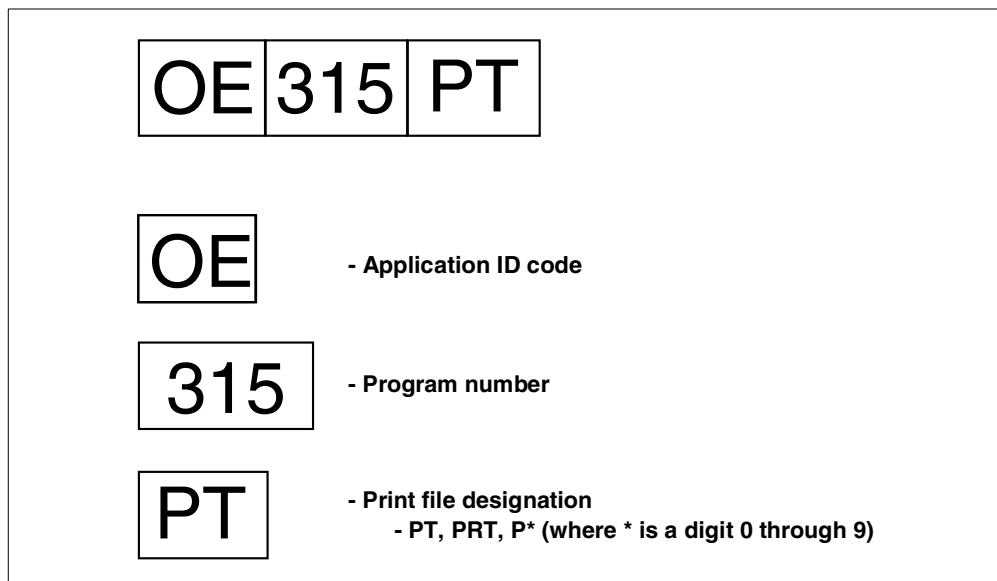

Figure 228. Print file naming convention
- **Print file:** Figure 228 illustrates the naming convention for print files.